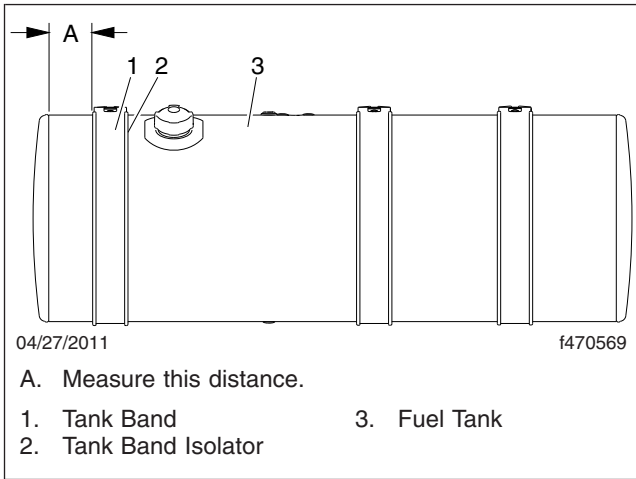

Fig. 2, Distance From Forward Edge of Fuel Tank to Isolator (diesel tank shown)
6. Before removing the fuel tank bands, measure and record the distance from the forward edge of the fuel tank to the edge of the forwardmost band isolator. See **Fig. 2**.
3. Adjust the tank position until the distance between the forward edge of the tank and the tank band is equal to the distance measured in Fig. 2.